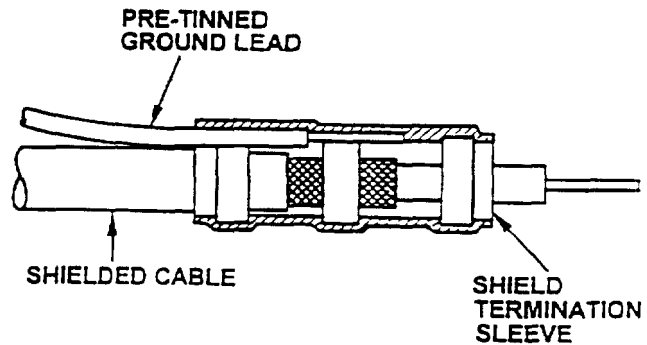

Figure 4 . M83519/2 Termination
17. **M83519/2 or Series SO2.** These solder sleeves are supplied with a pre-tinned ground lead (Figure 4).